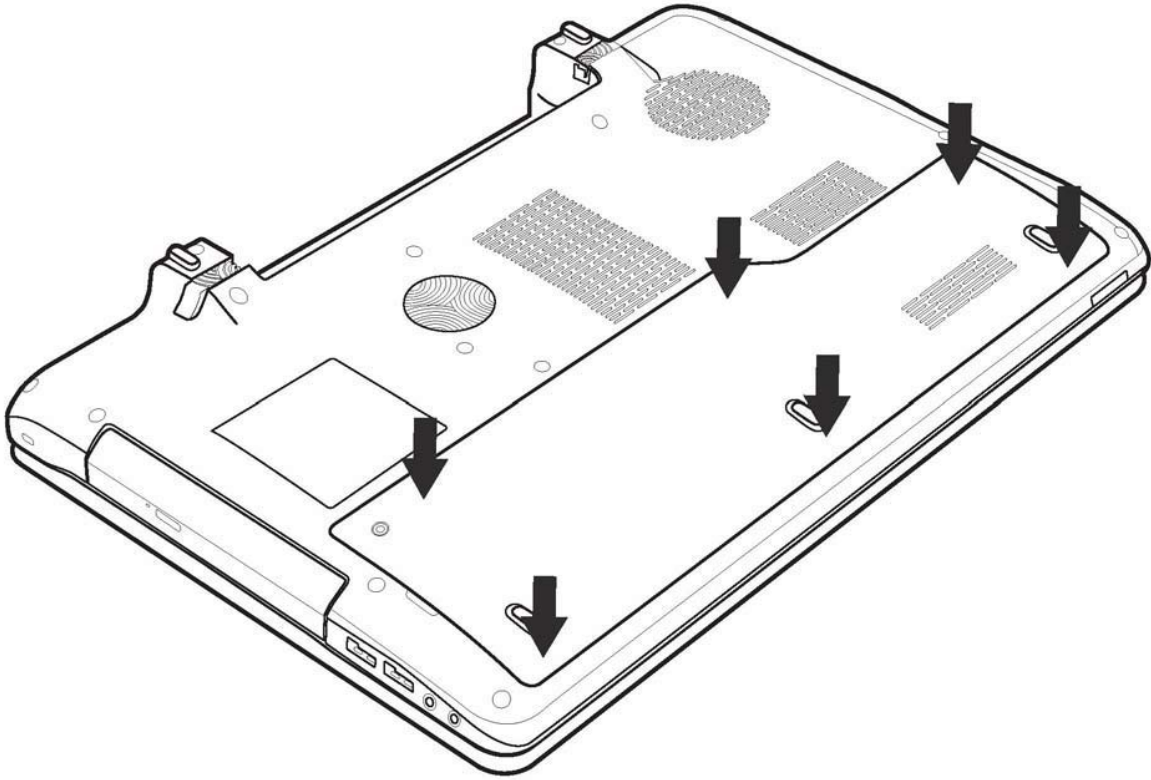

Figure 4-6 Installing the logic lower door
4. Replace the logic lower door, press down the logic lower door according to the following procedures indicated in Figure 4-6.